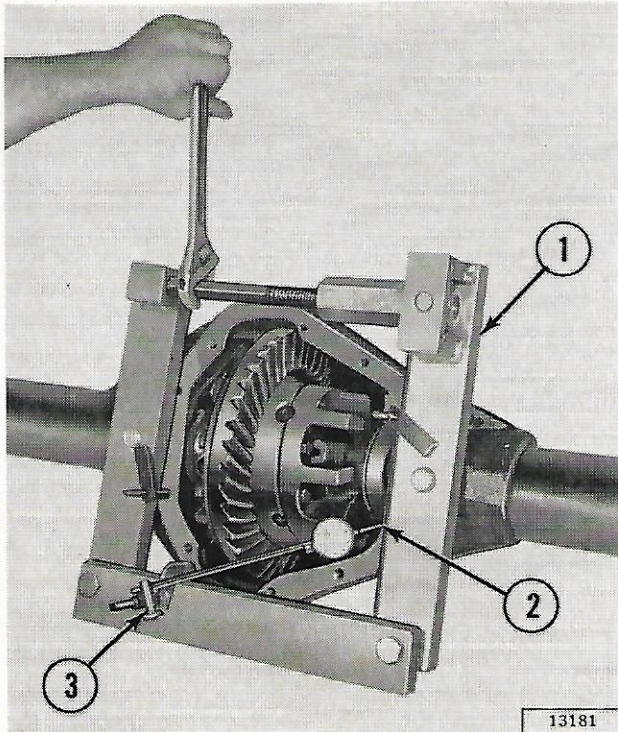

FIG. 11-3—DIFFERENTIAL CARRIER SPREADER
c. Use Spreader W-129 as shown in Fig. 11-3 to spread the housing. Install Hold-Down Clamps, to keep the spreader in position. Clamp on a dial indicator. From the side, measure the carrier spread. Do not spread the carrier more than .020".